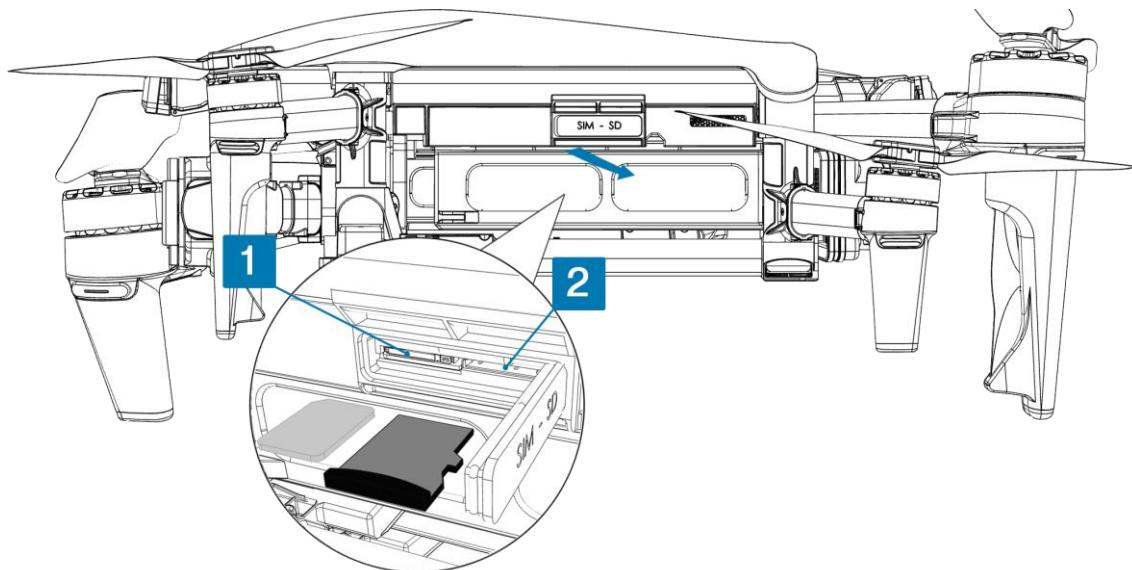

Figure 13: Nano SIM card/MicroSD card insertion
- a. Insert the nano SIM card into the left-hand keyed slot (*No. 1 in Figure 13*).
- b. Insert the microSD card into the right-hand keyed slot (*No. 2 in Figure 13*).